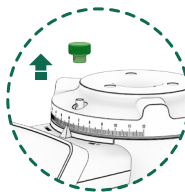
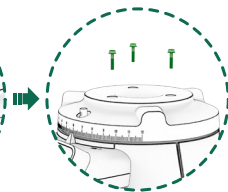

Fig. 5
Fig. 6
12.3.4. Remove the regulation brake by pulling upwards (7) (Fig. 5). Loosen the grinding regulator screws using a #3 Hex Allen key, according to (Fig. 6).